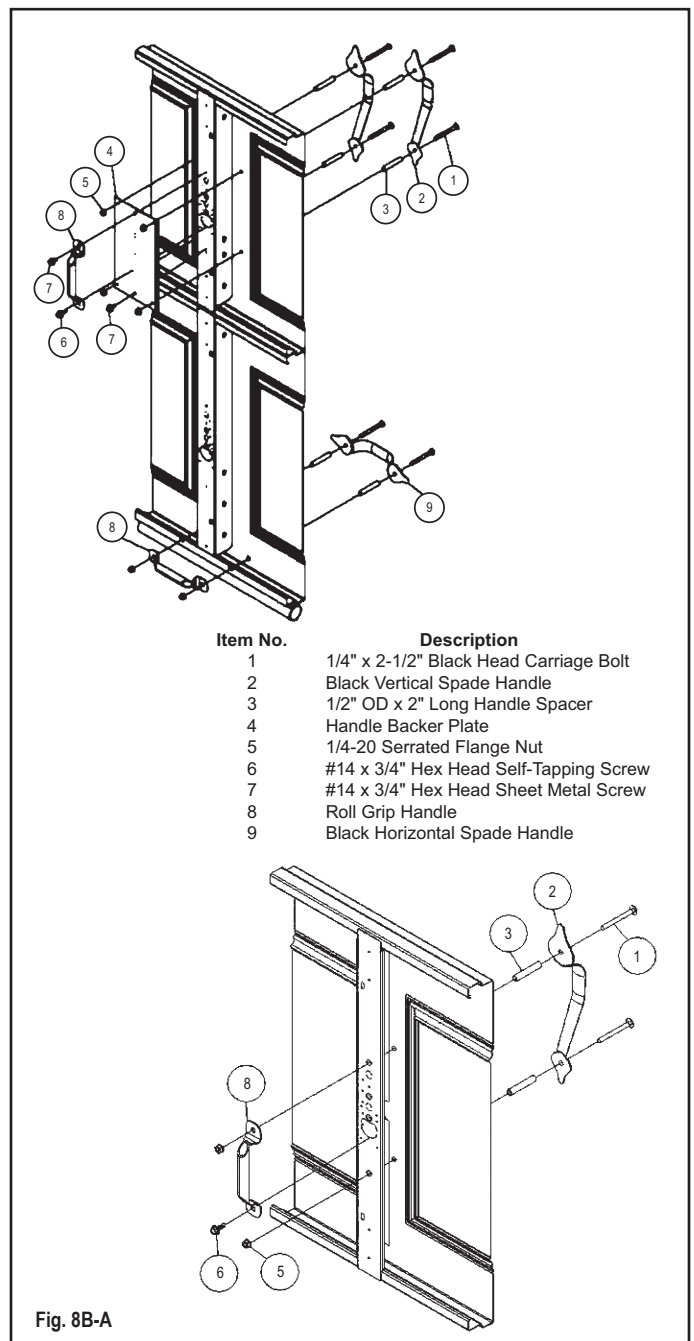

Fig. 8B-A
- Secure with 1/4" flange nut (Fig. 8B-A).
- Attach handle backer plate to back of door with (2) #14 × 5/8" sheet metal screws through inside roll grip handle and into the inside skin (Fig. 8B-A).
- Secure on the inside with 1/4" flange nuts. Do this for each handle (Fig. 8B-A) Skip to STEP 8-9.
- Slide (2) 1/4" black head carriage bolts through vertical handle, handle spacers, door section and through backer plate.
- Attach bottom of roll grip handle with a #14 × 5/8" sheet metal screw into the backer plate (Fig. 8B-A).